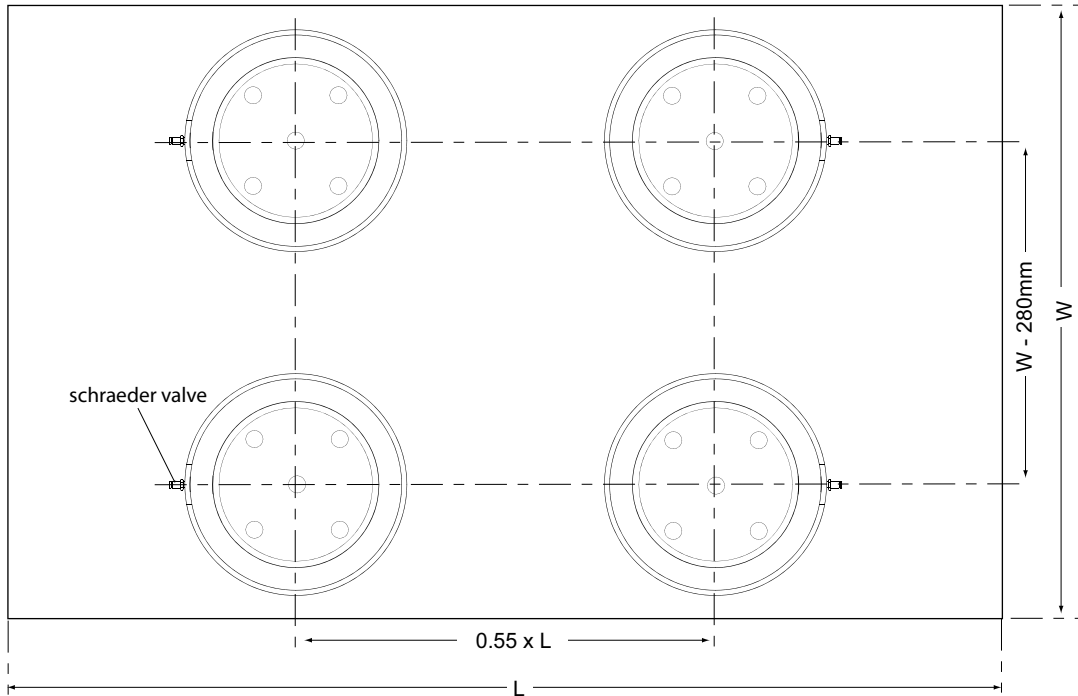

Fig. 3.2 Isolator positions
- Position the isolators in approximately the correct position for the table – see Fig. 3.2 for dimensions. Note the position of the Schraeder valves and orientate the isolators as shown. Remove the lifting handles.